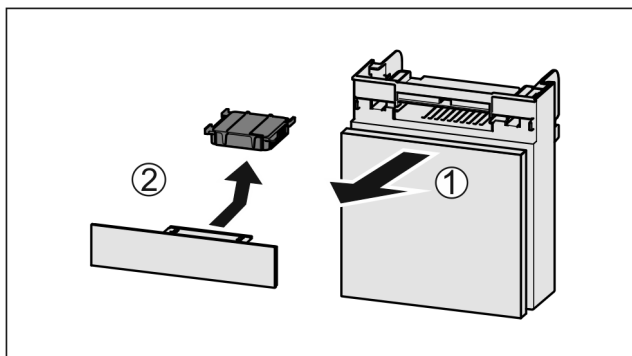

Fig. 122
- Pull out the compartment Fig. 122 (1).
- Remove the carbon filter Fig. 122 (2).